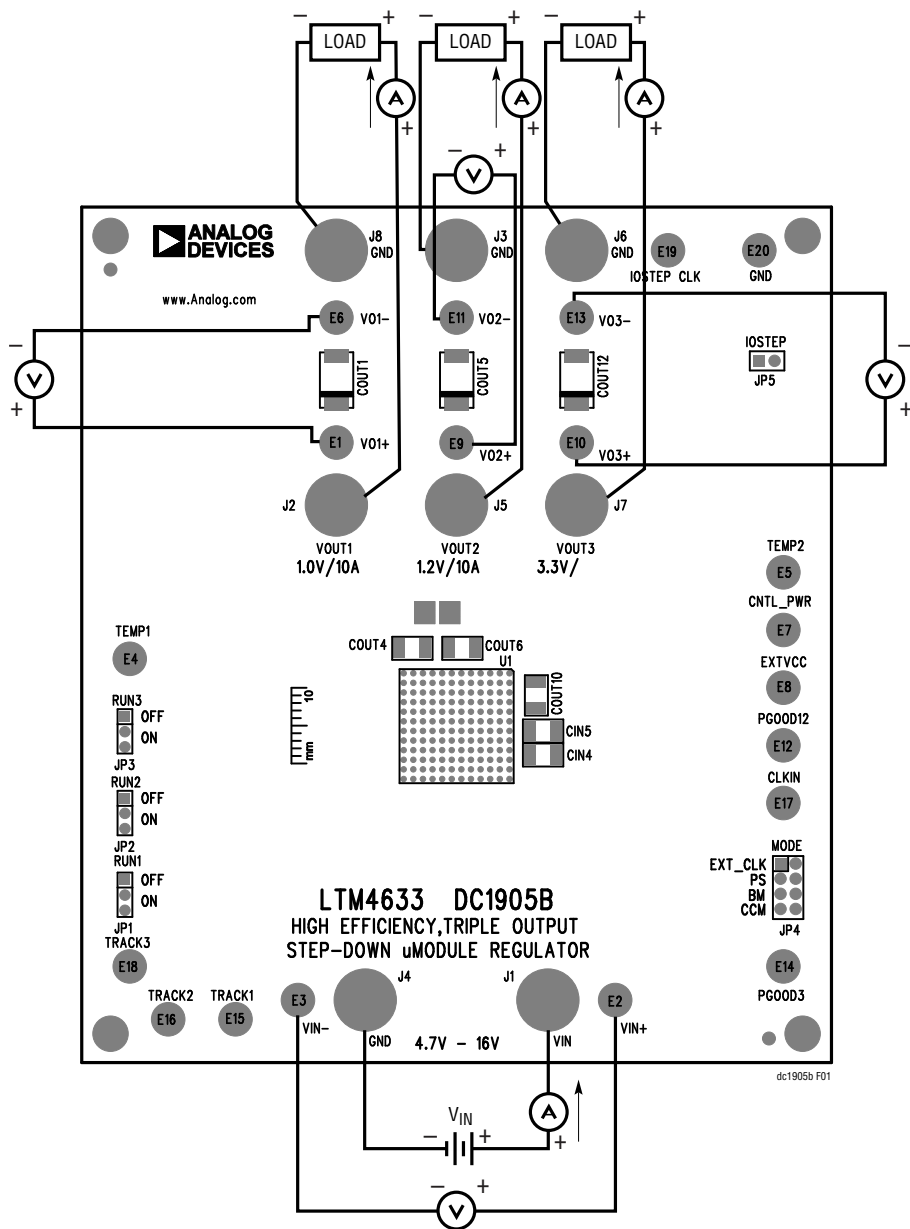

Figure 1. Measurement Setup of DC1905B
Demonstration circuit 1905B is an easy way to evaluate the performance of the LTM4633EY. See Figure 1 for the proper measurement equipment setup and follow the procedure below.
- With power off, connect the input power supply, loads, and meters as shown in Figure 1. Preset the load to 0A and V_{IN} supply to 12V.